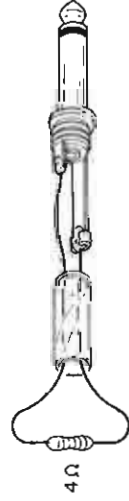

Fig. 5-18 Test connections for PHONES output check
2. Connect a 4-ohm non-inductive resistor to the 2-conductor phone plug as shown in Fig. 5-18, and insert this plug into the PHONES jack.